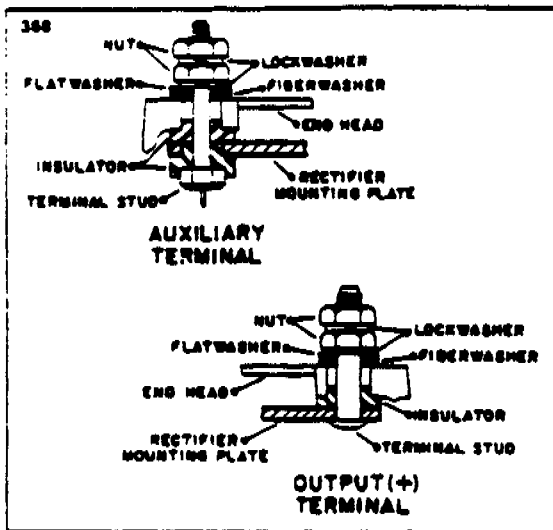

FIGURE 9-27k. TERMINAL ASSEMBLY
- c. Reassemble the rectifier mounting plate studs and insulators, making sure they are in the correct order. (Refer to Figure 9-27k.)